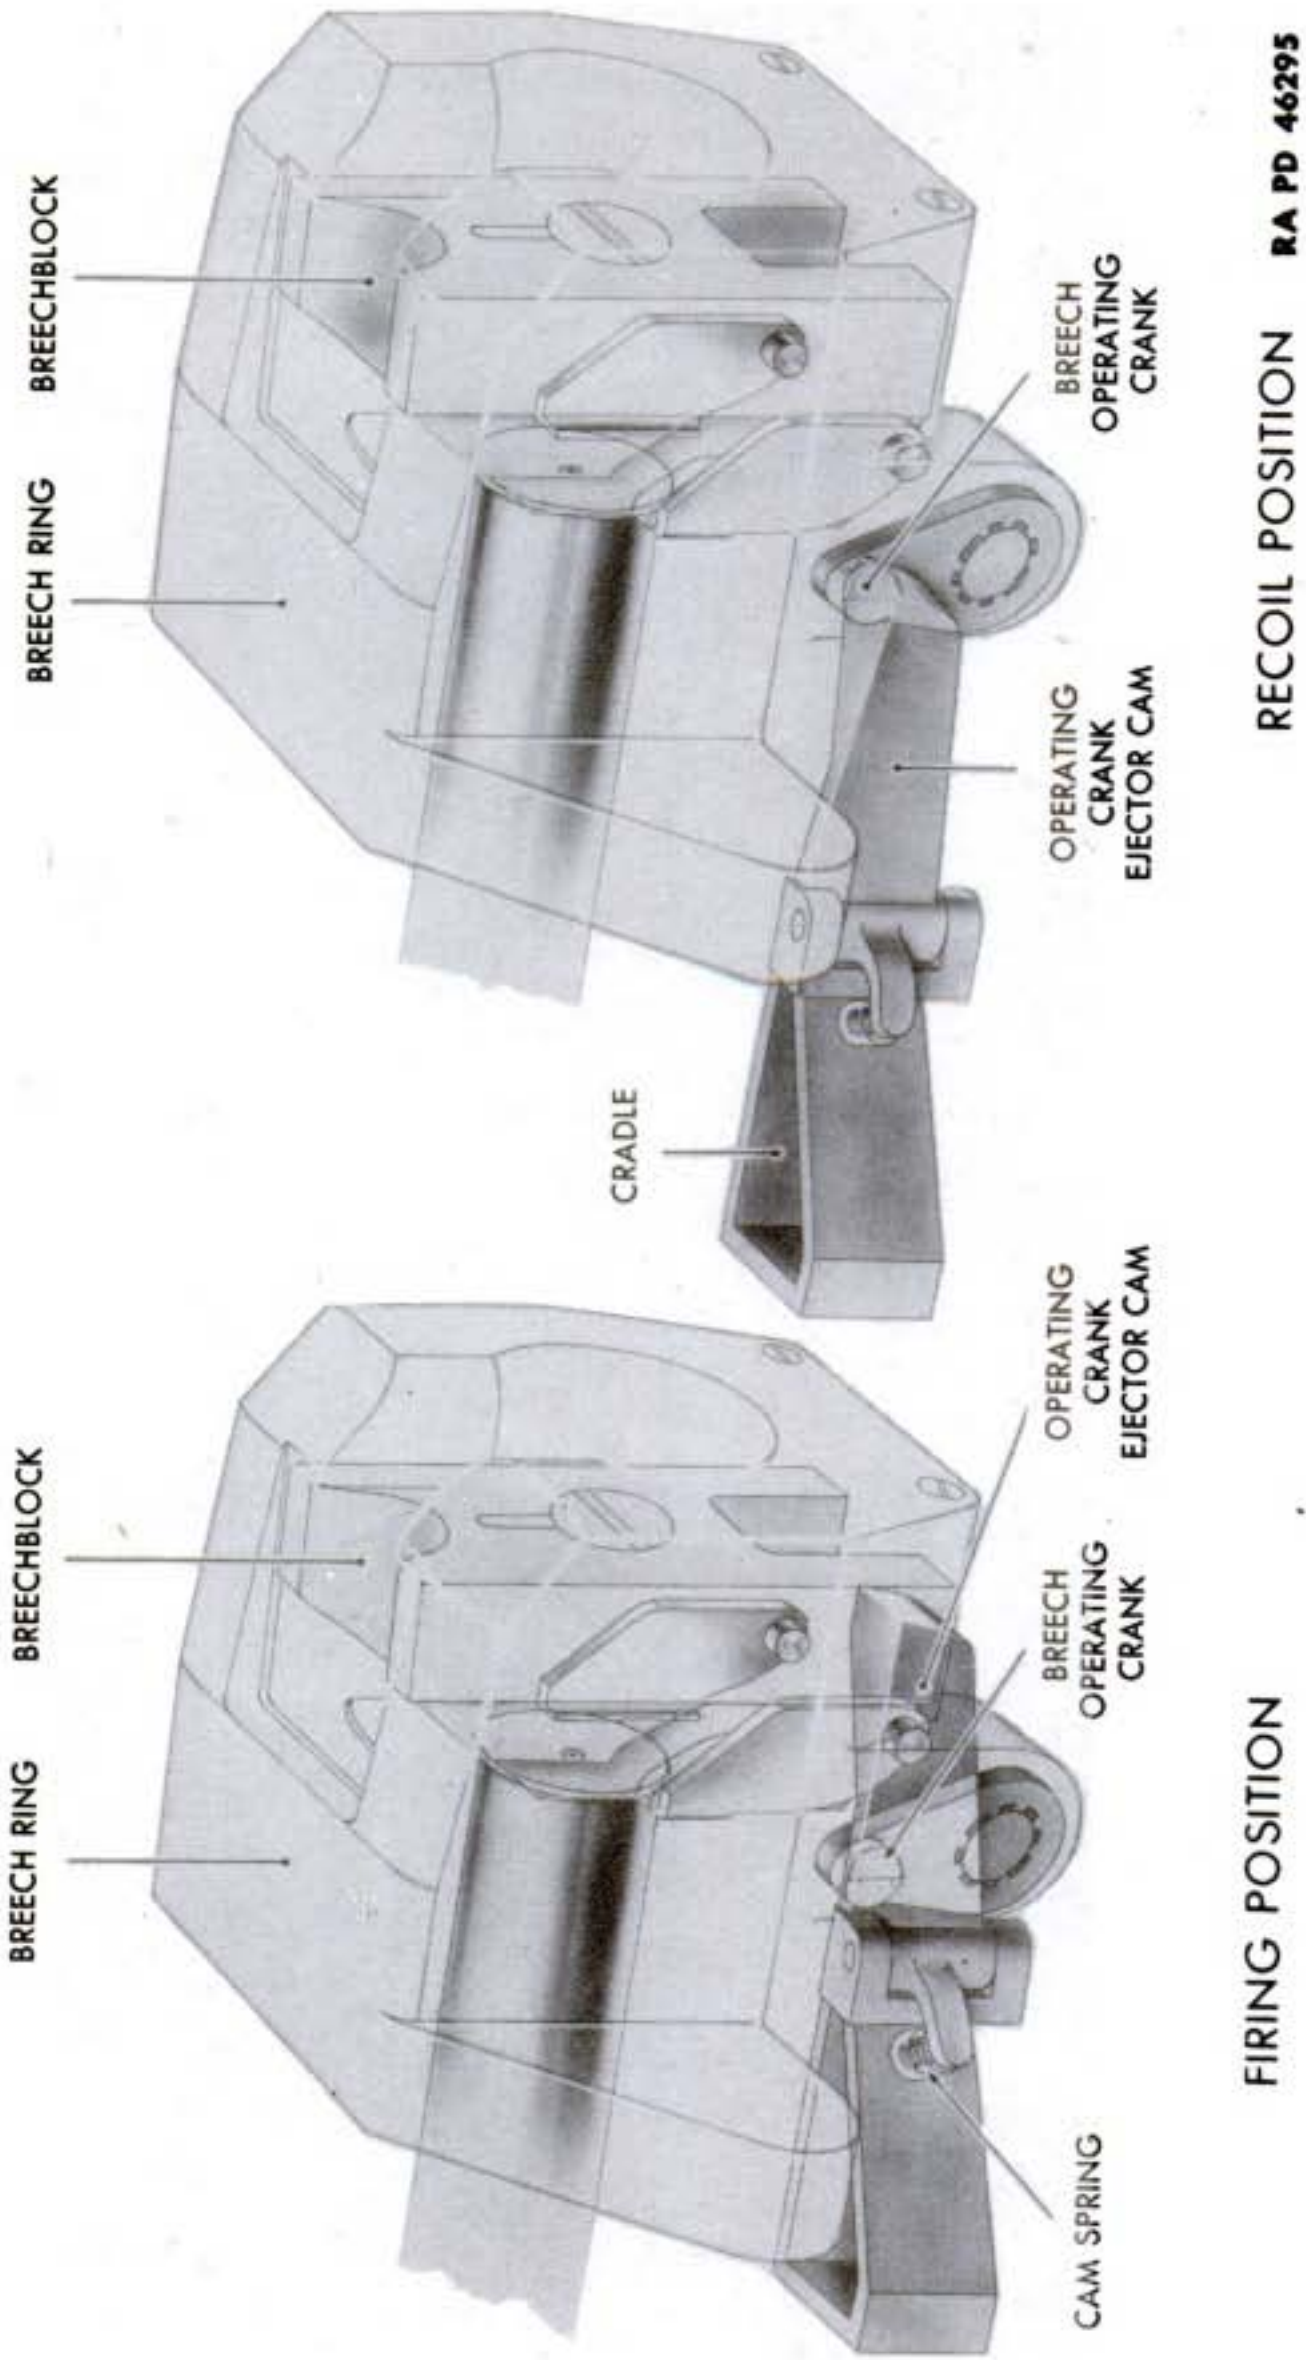
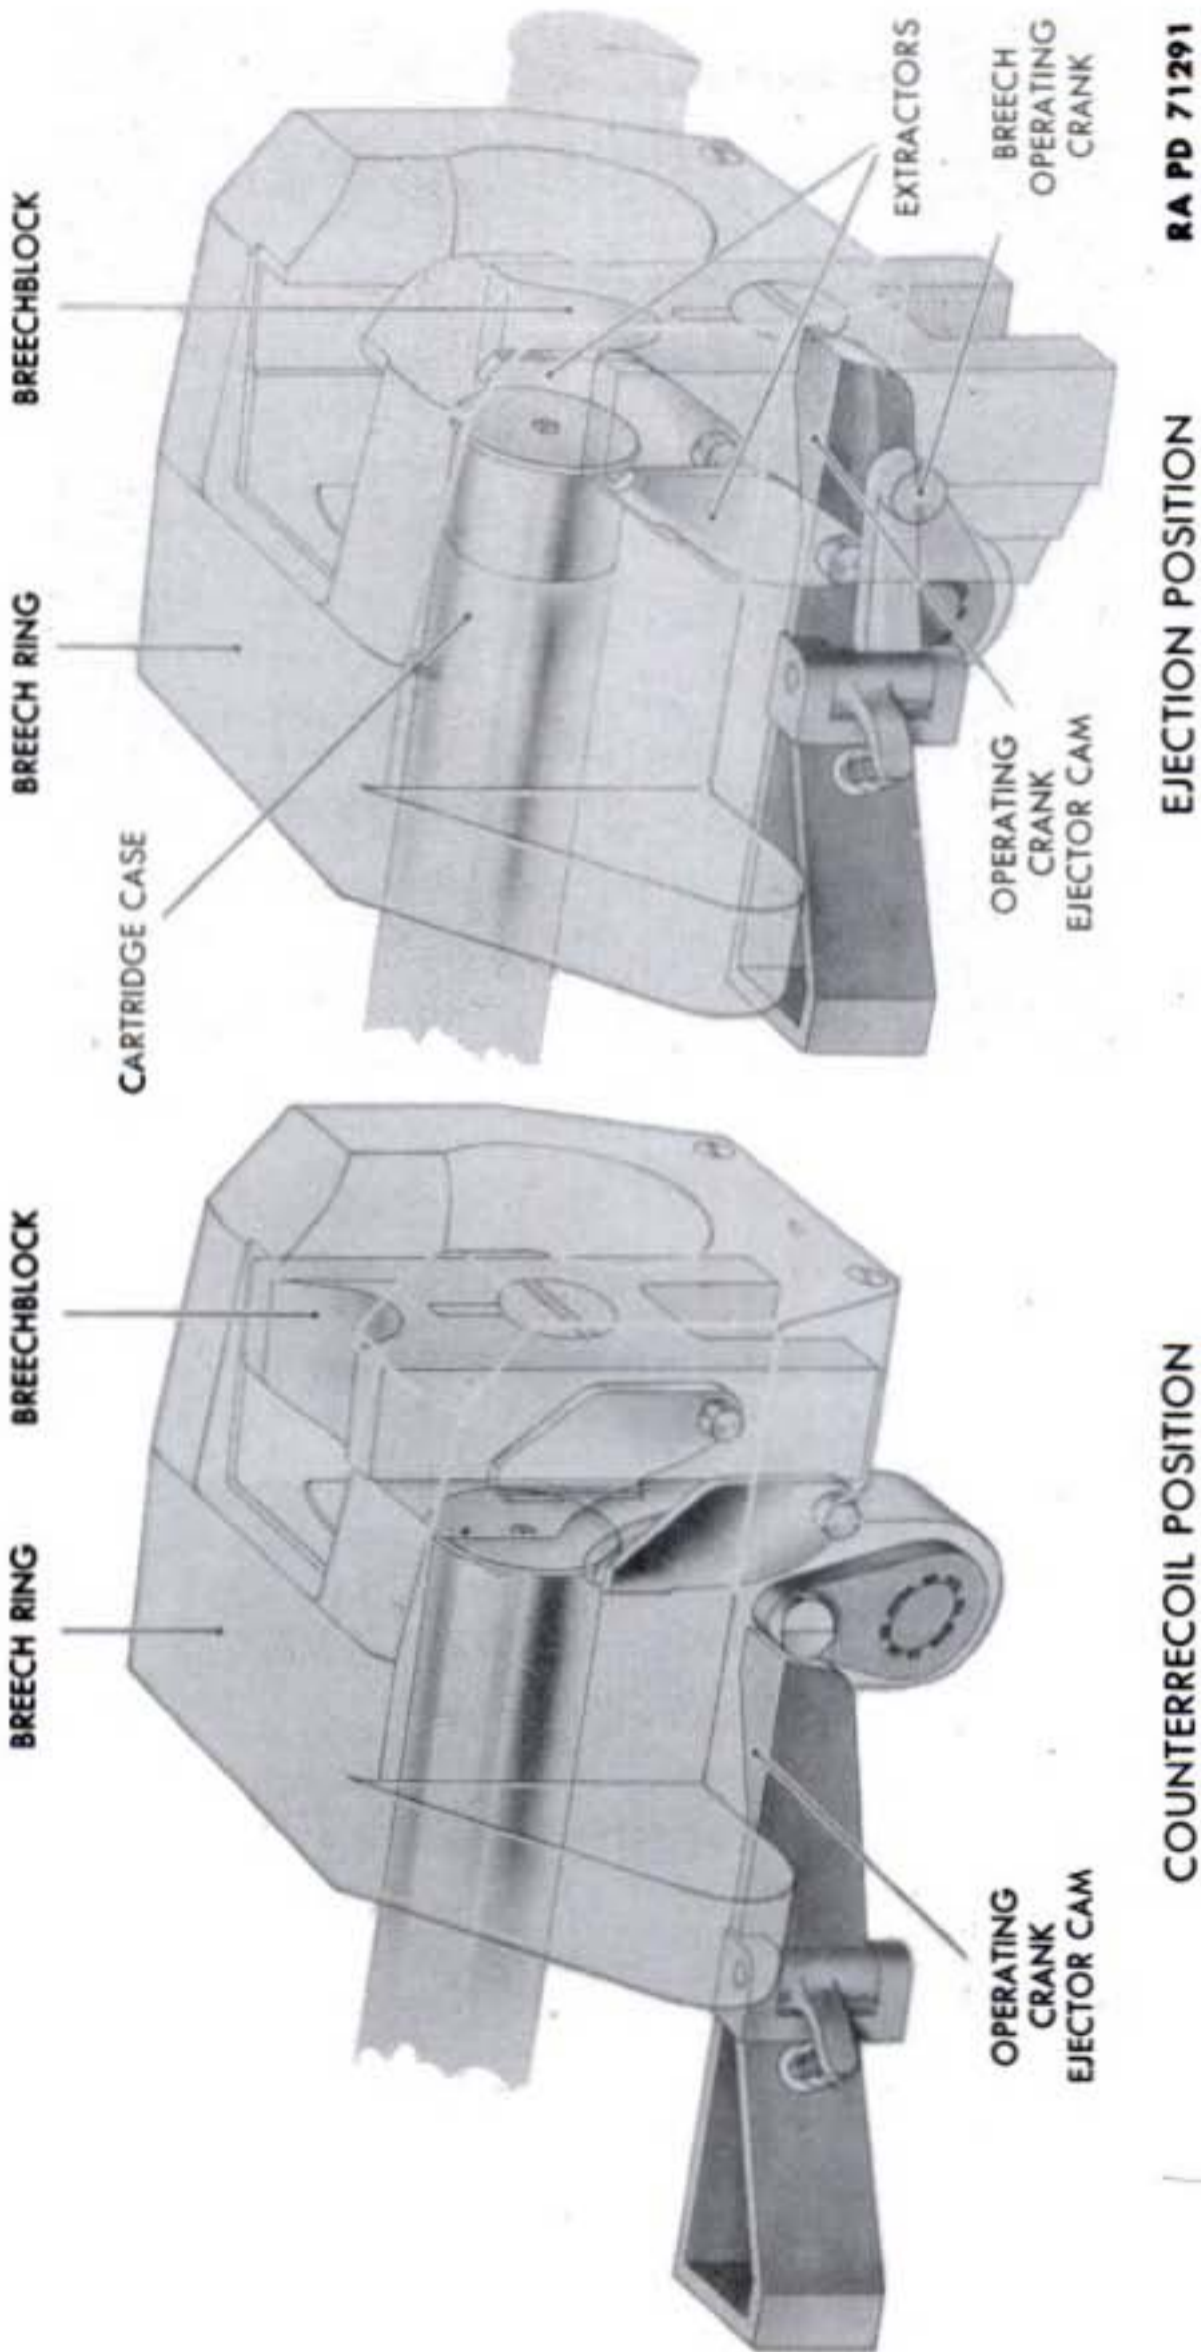

Figure 180—Portion of Carriage Case Ejection Operation
Figure 181—Portion of Cartridge Case Ejection Operation
(1) The cam ejector mechanism consists of an ejector cam which is mounted on a bracket that extends out from left rear end of cradle. An ejector cam pin holds the cam to the cradle and two ejector cam screws secure the cam to the cam pin.
(2) The inside of the ejector cam has a sloped (cam) surface on which the breech operating crank operates. The front end of the ejector cam has an offset lug which contacts a spring operated retainer to hold the cam in contact with the breech operating crank.
b. Firing Position (fig. 180). The breech operating crank rests inside of ejector cam when the operating crank and ejector mechanism are in firing position. The ejector cam spring retainer is maintaining pressure on the ejector cam, keeping the cam in contact with the breech operating crank.
c. Recoil Position (fig. 180).
(1) The breech operating crank, being attached to the breech operating shaft, recoils and counterrecoils along with the tube and breech. The ejector cam, being attached to the cradle, remains stationary during recoil and counterrecoil.
(2) At the start of recoil the operating crank is forced against the ejector cam, causing it to pivot outward on the cam pin. When the crank clears the end of the ejector cam, the ejector spring pushes the cam back into its normal (straight) position.
d. Counterrecoil Position (fig. 181). Counterrecoil starts with the breech operating crank off and to the rear of the ejector cam. As the barrel and breech near the finish of their counterrecoil, the breech operating crank strikes the rear end of the ejector cam. This causes the breech operating crank to rotate. The splined breech operating crank, being on the splined breech operating shaft, rotates the shaft, opening the breech and compressing the breech closing spring.
e. Ejection Position (fig. 181).
(1) The opening of the breech automatically ejects the fired cartridge case.
(2) As the counterrecoil continues, the breech operating crank turns off the end of the ejector cam and onto the bottom of the cam, then forward on the bottom of the cam; and as soon as a round is inserted into the firing chamber the operating crank and ejector mechanism are again in firing position.
a. At the command "fire" the electrical firing plunger (fig. 180) on the right or the left elevating wheel can be pushed, or the hand firing lever pushed to fire the round (fig. 178).